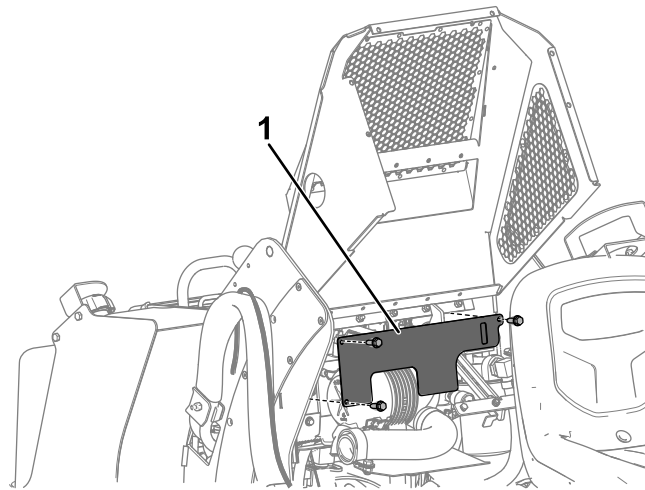

Figure 1
7. Remove the cover plate by removing the 3 bolts holding it in place (Figure 1).